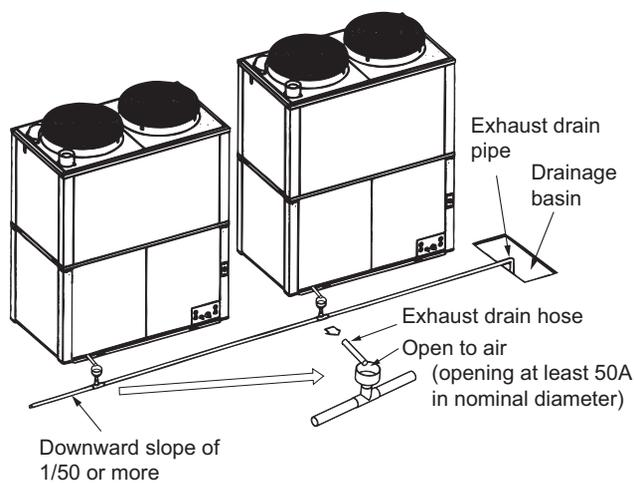

Fig. 12 Draining the exhaust into a drainage basin
(3) Exhaust drain pipe work
- If connecting the outdoor unit's exhaust drain to a covered drainage basin or gutter, or draining multiple outdoor units to the same location, be sure to configure the pipes (as shown in Fig. 12) so that exhaust gases are discharged into open air. (Make sure that the opening in the receiving drain pipe is at least 50A in nominal diameter.) Exhaust gases flowing into the building or indoor/outdoor units may result in poisoning or corrosion of the unit.
- Slope the drain pipe at a gradient of 1/50 or more, and do not taper the pipe diameter (Fig. 12, 13). In addition, do not create any traps or peaks in the pipe.